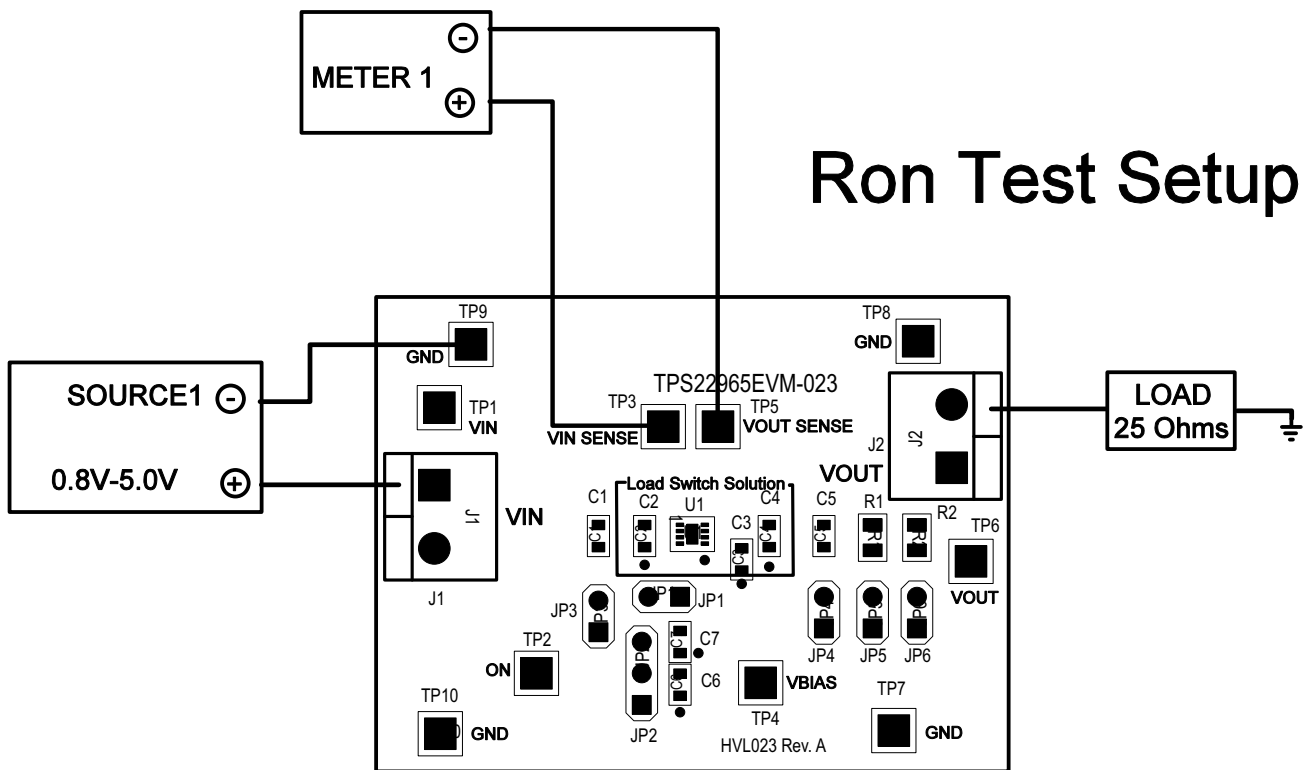

Figure 5. TPS22965EVM-023 Recommended R_{ON} Test Setup
Figure 5 shows a typical setup for R_{ON} testing of the EVM. VBIAS voltage must be present for the device to function. Place a shunt across JP1 to connect VBIAS to VIN voltage source. If VIN supply is used below 2.5 V, remove the shunt and connect VBIAS voltage to a voltage source > 2.5 V. TI recommends operating the TPS22965 device with VBIAS = 5 V. Datasheet limits are specified with VBIAS set at 5.0 V.
1. Setup the EVM per Figure 5.